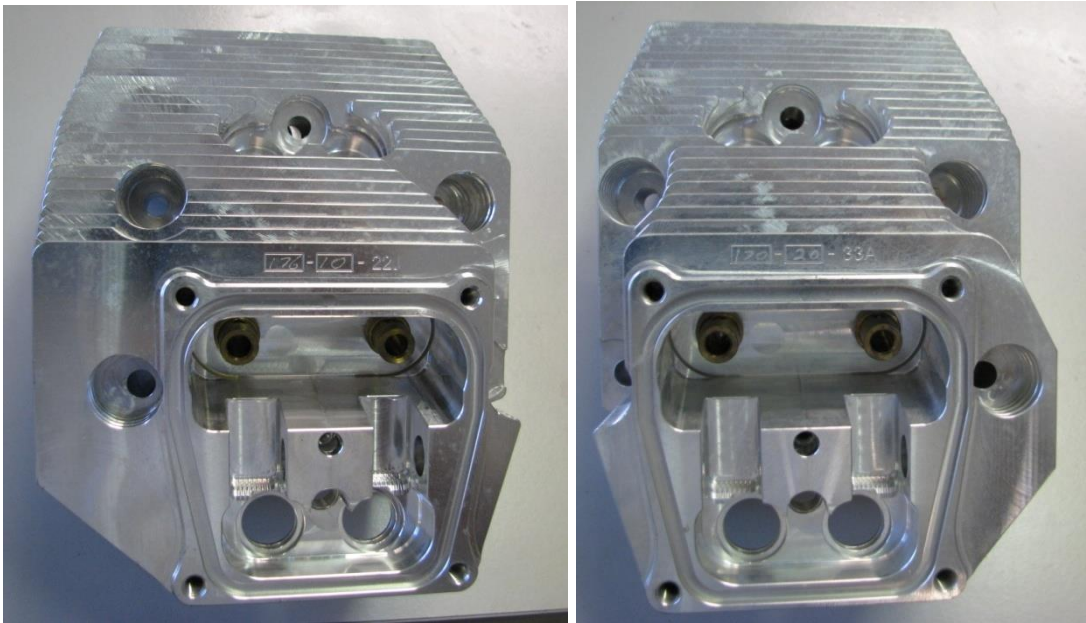

Figure 144 – Cylinder Head Comparison (2200 head on left, 3300 on right).
- Note that the 2200 engine uses two different cylinder heads – one for cylinders 1 & 4 and another for 2 and 3 - Figure 144 refers. The Jabiru 3300 engine uses the same cylinder head for all cylinders – though they are fitted with different induction or exhaust pipes depending on where they are fitted to the engine.